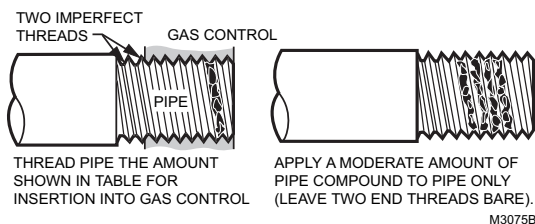

Fig. 5. Use Moderate Amount of Pipe Compound.
4. Apply a moderate amount of good quality pipe compound (DO NOT use Teflon tape) to pipe only, leaving two end threads bare. On LP installations, use compound resistant to LP gas (See Fig. 5).